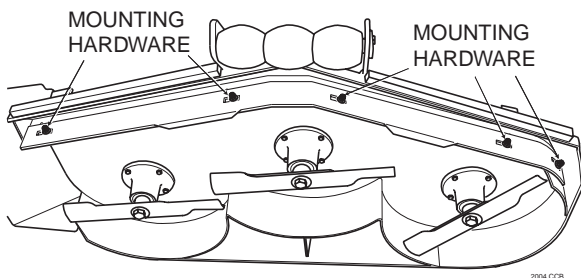

Figure 9. Custom-Cut Baffle
1. Remove the hardware securing the Custom-Cut Baffle to the cutter deck (See Figure 9).